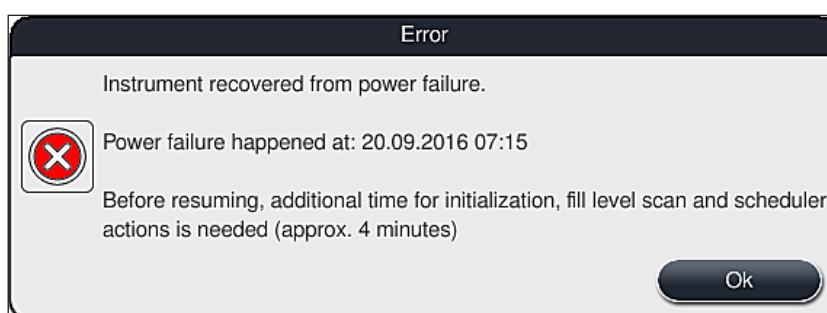

Fig. 104
- ① The first information message after the instrument restarts automatically notifies the user of the power failure time (→ "Fig. 104"). Confirm this information message by pressing the **OK** button to start the additional instructions for continuing the staining process.